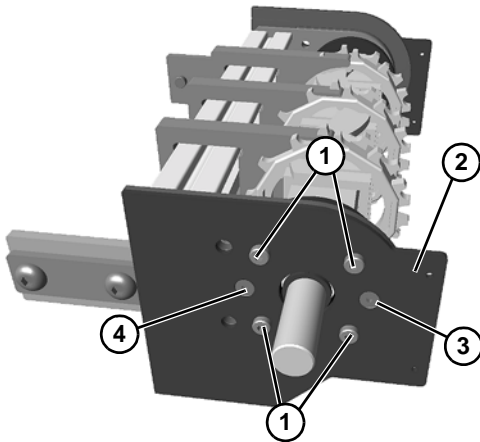

Figure 66
7. Remove four socket head screws (**Figure 66, item 1**) on each side of drive tail assembly (**Figure 66, item 2**).
8. Remove two flat head screws (**Figure 66, item 3**) on each side of drive tail assembly (**Figure 66, item 2**).